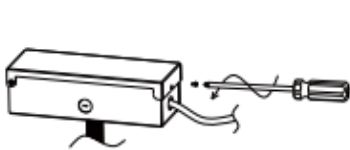

Figure 9
9. Finally, assemble the driver box. (Figure 9) (Figure 10)